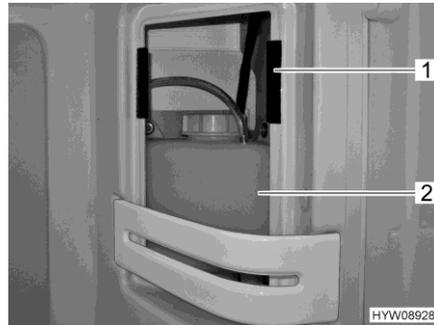

Fig. 173 Compensator reservoir (hot-water heater)
- Remove the cover of the compensator reservoir (Fig. 173,2) in the right-hand upper part of the shower. The cover is secured with Velcro (Fig. 173,1).